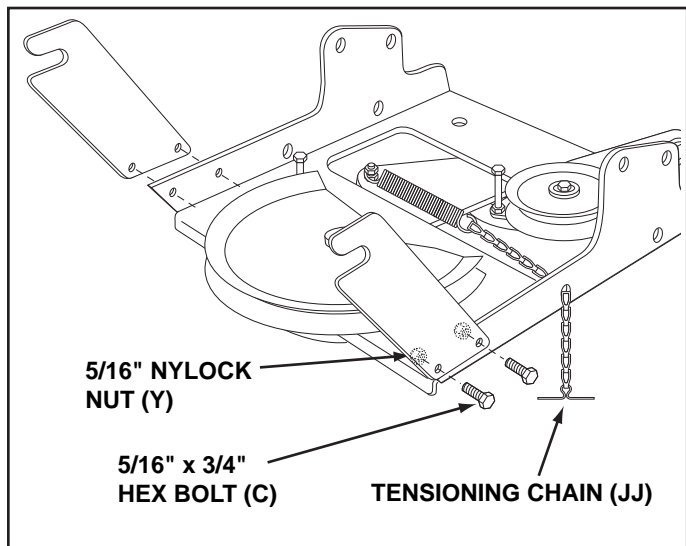

FIGURE 14
STEP 14: (SEE FIGURE 14)
- Attach the two suspension arms to the rear of the clutch/idler assembly using two 5/16" x 3/4" hex bolts (C) and 5/16" nylock nuts (Y) for each arm. Place the arms on the outside of the frame with the notches to the rear.